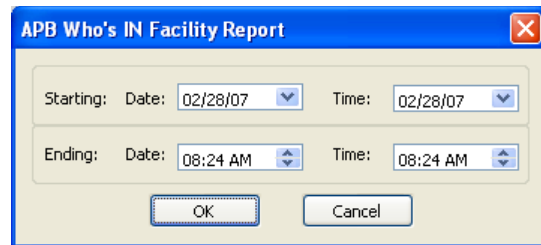

Figure 61
- To view the APB Who's In report, click the APB REPORT button. The APB Who's In Facility Report window will appear (Fig 61). Enter the starting date / time and ending date / time that you want the report for, then click OK.